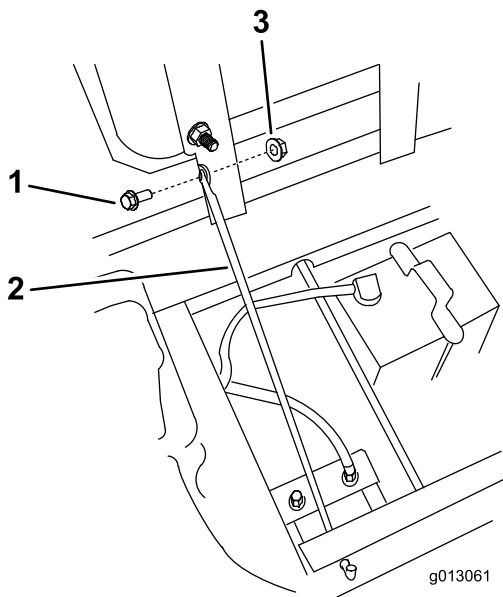

Figure 8
1. Tilt the seat forward and remove the nut and bolt from the seat retaining rod (Figure 8).
9. Install the seat retaining rod with the nut and bolt previously removed (Figure 8).